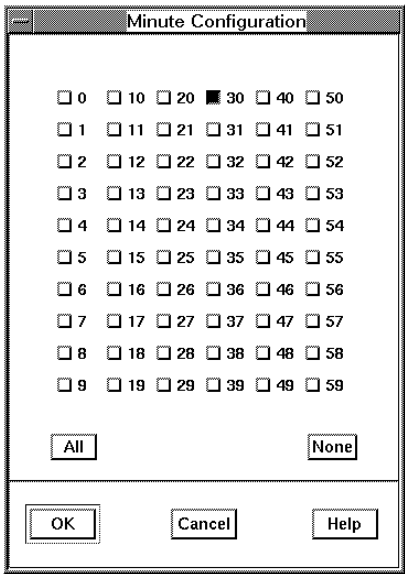

Figure 3-57. Minutes Configuration for 30 Minutes After the Hour
- f. Remove the selection from 0 by clicking on its box (or **None**). Then select **30**, Figure 3-57, and click on **OK**. This selects 30 minutes after the selected hour.